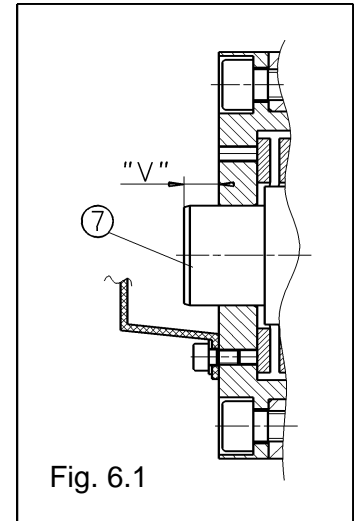

Fig. 6.1
6.2 Checking/adjusting braking force (see Fig. 6.1)
- Check the braking force, i.e. spring tension. Remove the dust cap, engage (close) the brake caliper and measure how far the piston (7) in the spring pressure cylinder protrudes from the cylinder cover as shown in Fig.6.1 (Dimension "V").
When brake pads are worn, spring tension decreases when the brake caliper is engaged and the length by which the piston (7) protrudes as shown in Fig. 6.1 is reduced. This reduces the braking torque. When the distance is reduced to 1.5 mm – at the latest (the piston is then in the end position) – braking force must be readjusted as described in section 5.3.